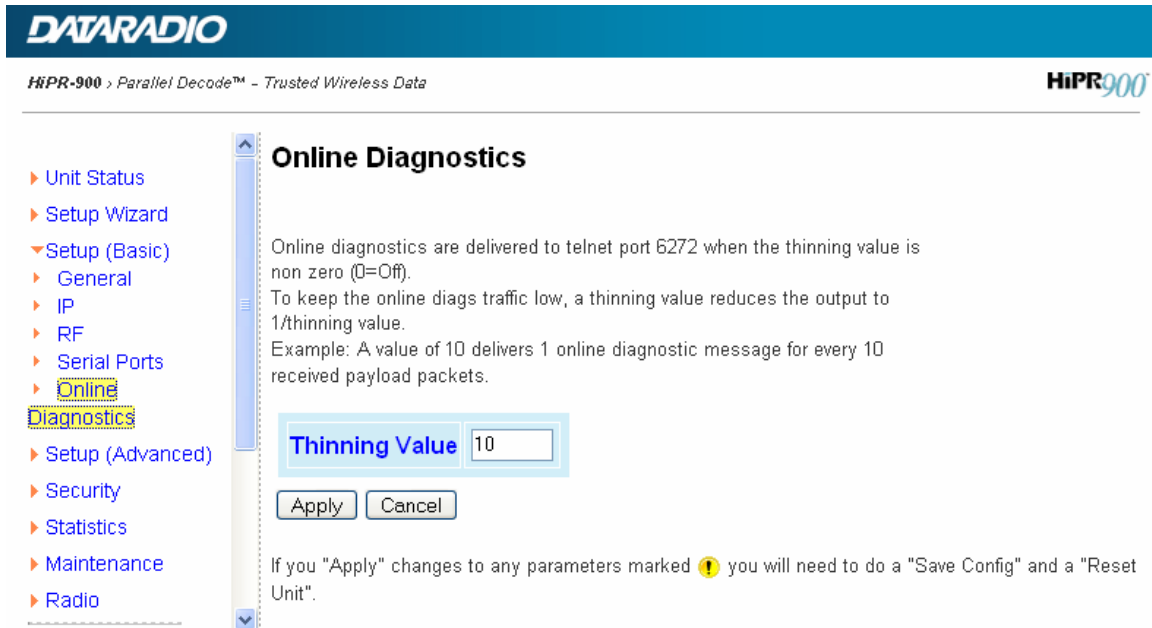

Figure 2
1. Set the HiPR Online Diagnostics for the desired thinning value. A Thinning Value of 10 or more is recommended. The Online Diagnostics screen is located in the HiPR Setup (Basic), Online Diagnostics menu (Figure 2).